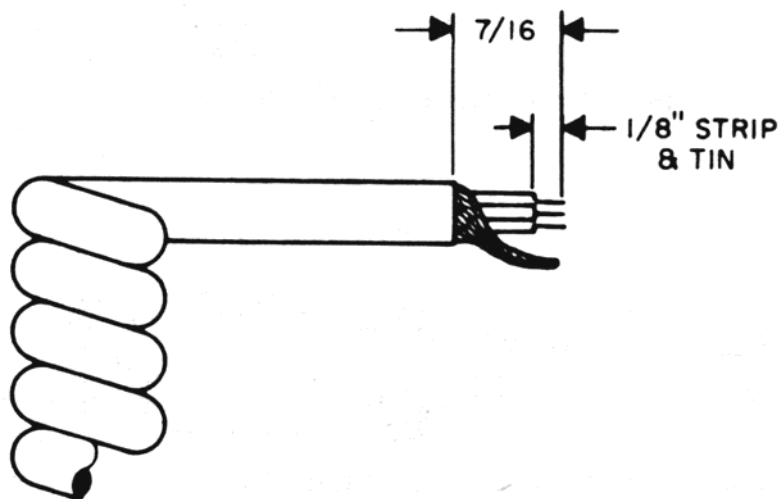

Fig. 1. Microphone cable preparation
1. The leads should be cut so that they extend $7/16''$ beyond the plastic insulating jacket of the microphone cable. See Fig. 1 below.